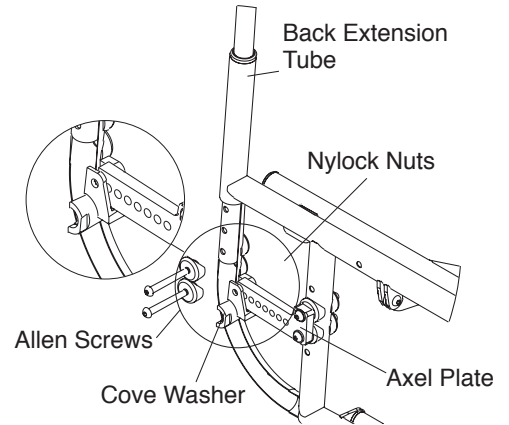

Figure 19
3. Remove the four Allen Screws (two on each side of the chair) that secure the axle plate to the frame. These Allen Screws also secure the back extension tube within the frame. Carefully note the order in which the various washers and nuts (and any other parts, such as anti-tip receptacles) were originally installed on the chair as you will need to reinstall all of the parts in the exact same order in Step 7 below. See Figure 19.